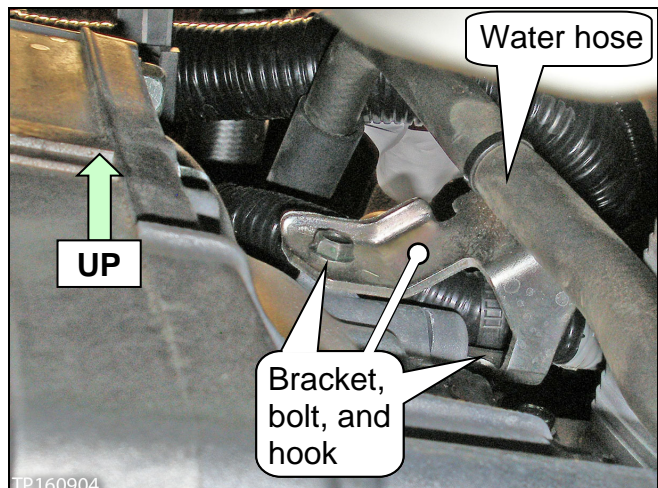

Figure 3a
4. Unbolt, and then unhook the bracket (see Figure 3a).